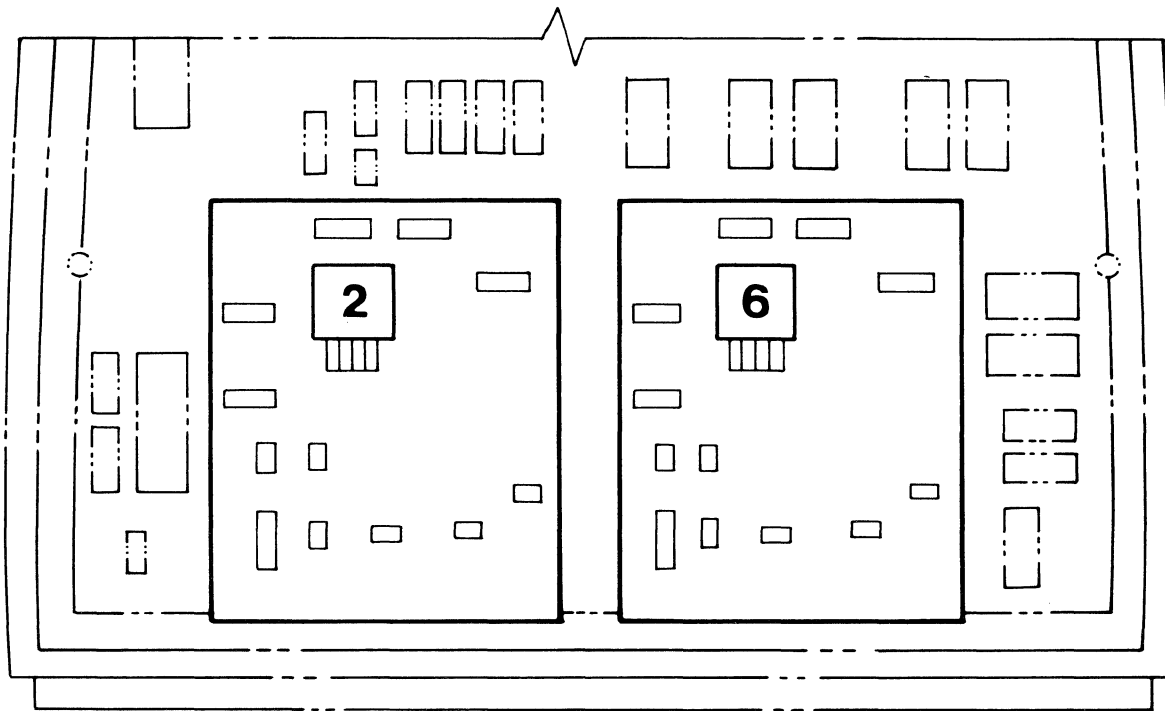

Figure 5-1. Discrete Memory Board
5.2.4 DISCRETE AND DUAL MEMORY BOARDS. There are two different types of memory boards used in the terminal, discrete memory boards and dual memory boards. The discrete memory boards contain one bubble memory device per board. Because of their size, only two discrete memory boards can be installed in a terminal. Each discrete memory board can store 10K characters. The location of the bubble devices on the discrete memory board is shown in figure 5-1.